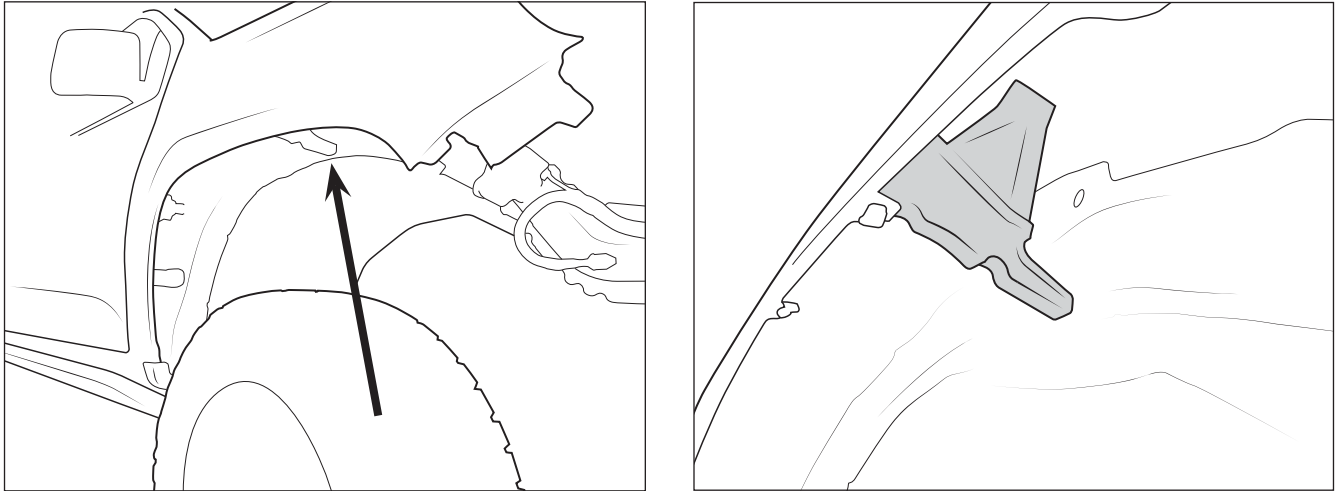

Figure 10
d. Gently pull fender out and remove the factory fender brace by pulling firmly downwards. **USE CAUTION** to not buckle the fender (fig. 10).